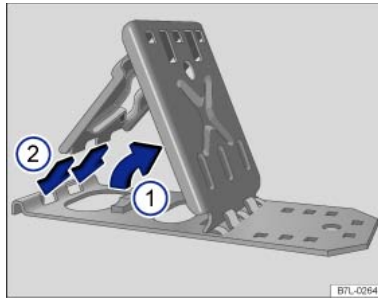

Fig. 200 Folding out the collapsible chock.
- Lift up the support plate ⇒ Fig. 200 ①.
- Insert the two lugs on the securing plate into the slots on the base plate ⇒ Fig. 200 ②.